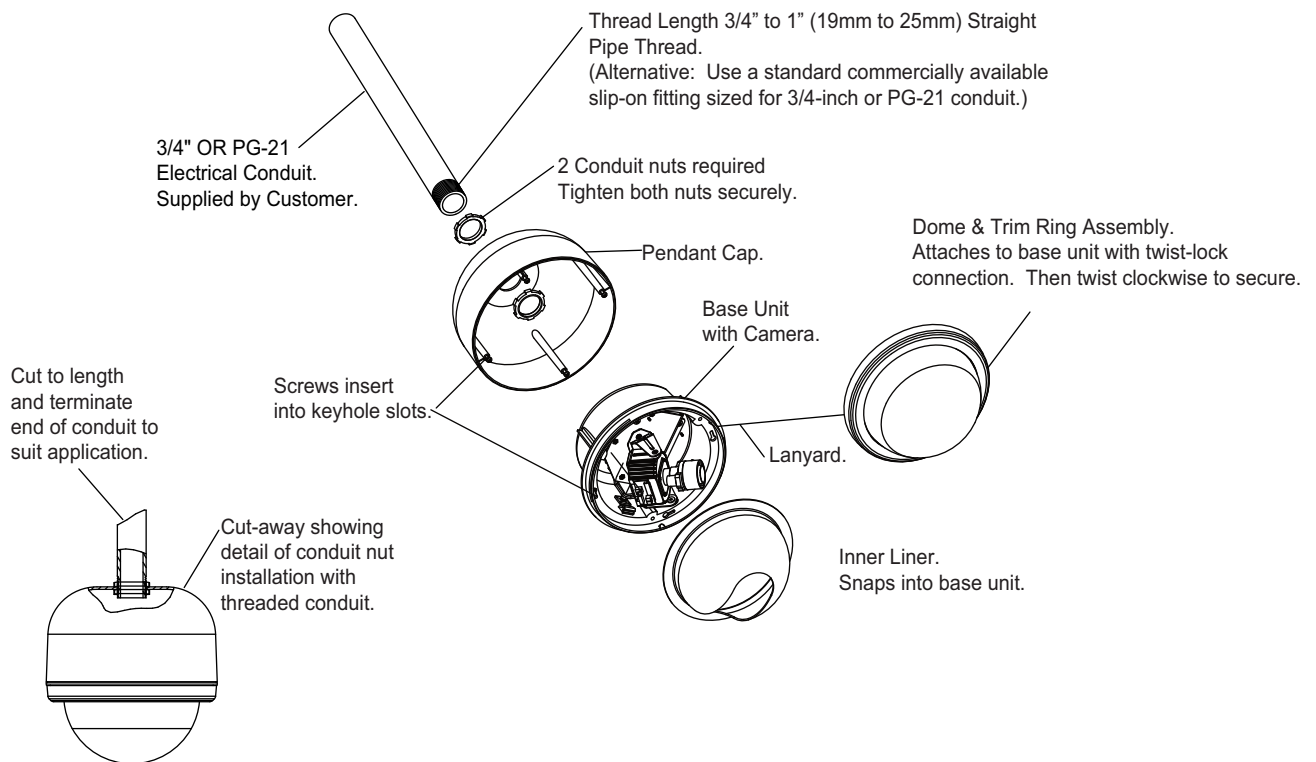

Figure 3 Pendant Pipe Mount Installation
2. Attach the 3/4-inch (NPT) conduit to the top of the pendant cap using two conduit nuts as shown in **Figure 3**. Conduit is not supplied.
4. Attach base camera/lens unit to pendant cap by lining up and joining the cap's four studs to the slots located on the back of the base unit. Twist the housing to lock it into place (see **Figure 3**).
5. Attach base camera/lens unit to pendant cap by lining up and joining the cap's four studs to the slots located on the back of the base unit. Twist the housing to lock it into place (see **Figure 3**).